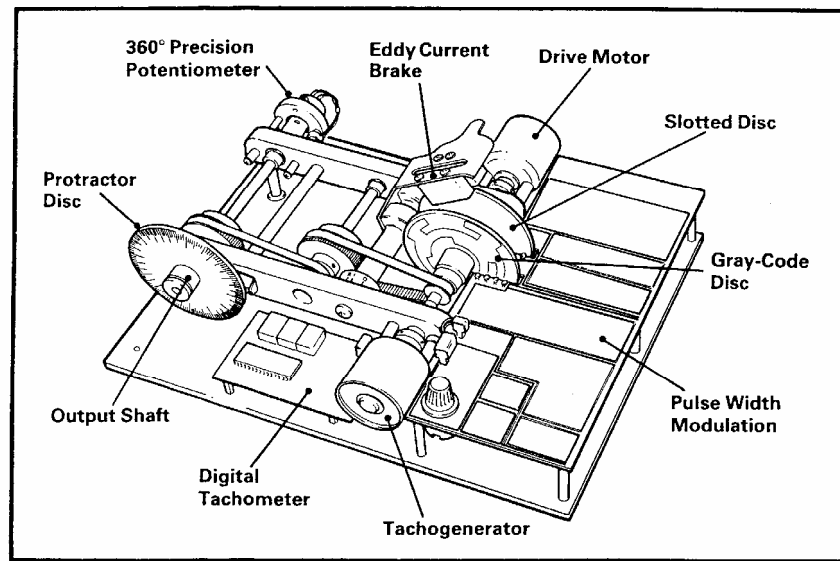

Figure 1: MS15 DC Motor Control Module
5. Turn the **Gray-Code Disc** with your hand until 0° on the **Output Shaft** disc (See Figure 1) is aligned with the marker. Slowly adjust the Output Shaft until the Gray Coded Disc Output indicator on your front panel shows 0.